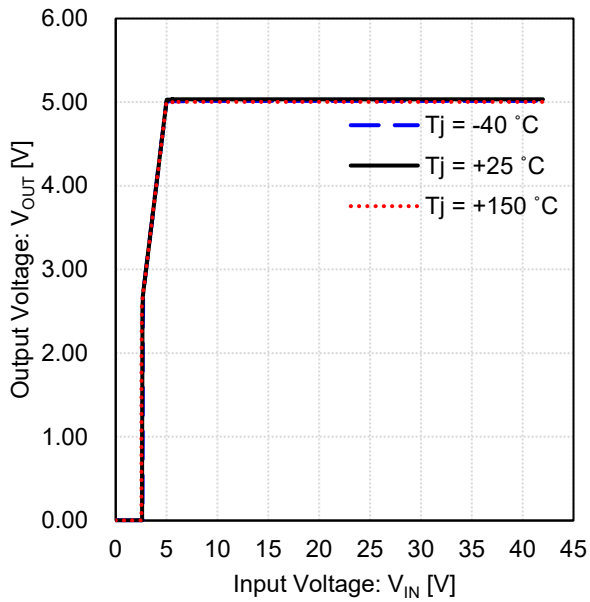

Figure 9. Output Voltage vs Input Voltage
*magnification of Figure 9 at narrow range output voltage
*magnification of Figure 9 at low input voltage